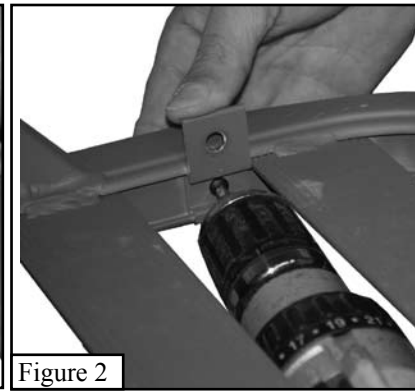

Figure 2
Step 2. Secure the bracket with one self tapping screw as shown in **Figure 2**. Repeat for the other side.